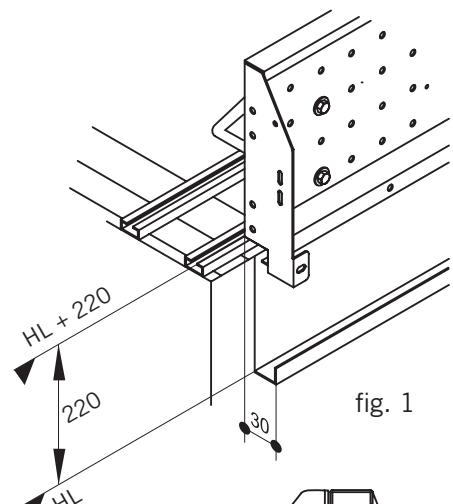

fig. 1
- 2º Place the operator 220mm. higher than the clear height of the cabin (fig. 1).